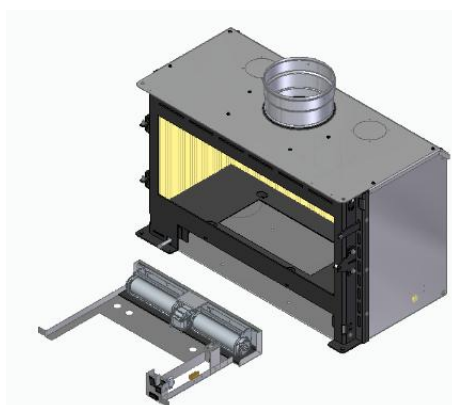

Figure 46 – Ventilation Kit Removal
d. After all these parts are removed, the ventilation kit can be removed from the equipment, see Figure 46. To reassemble it, you will have to proceed with the inverse assembly process.